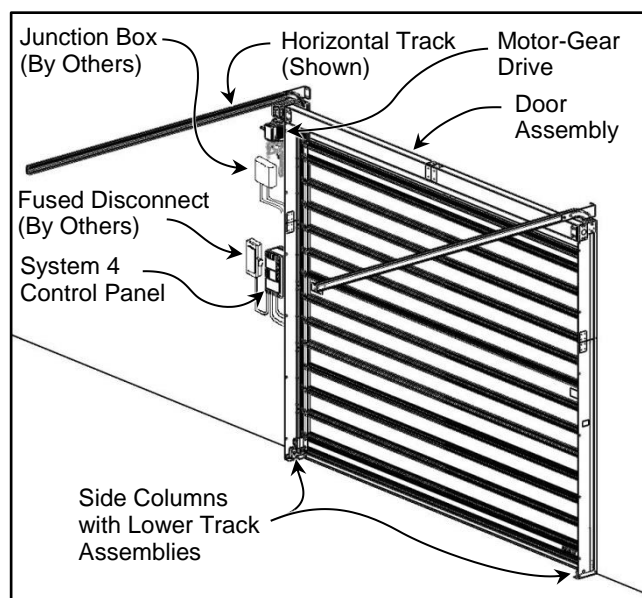

Figure 99
3. To ensure the correct parts are shipped, please include the serial number of your door with the order. The serial number is located on the front of both the left and right side column covers @ about eye level, on the drive motor gearbox in the head assembly, or on the door of the System 4 Control Panel. All these serial numbers should match. (See Figure 99)